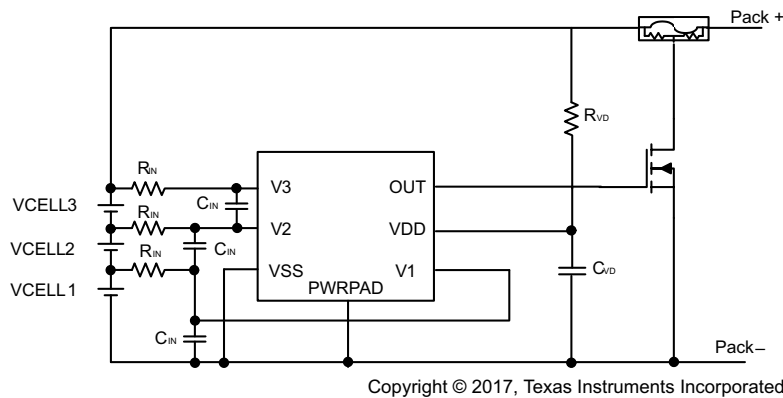

Figure 9-1. Application Configuration Schematic
Changes to the ranges stated in Table 9-1 impact the accuracy of the cell measurements. Figure 9-1 shows each external component.
- To connect to the device, follow the application configuration schematic (see Figure 9-1).